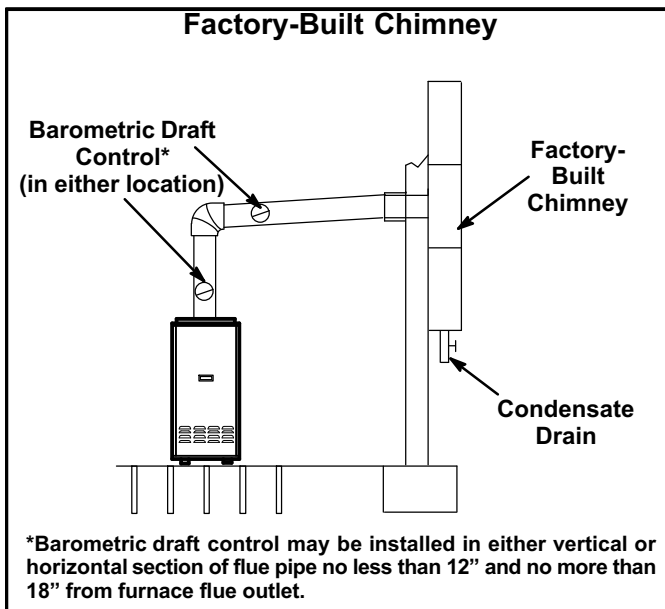

Figure 11
- 15 - All vent pipe run through unconditioned areas or outside shall be constructed of factory-built chimney sections. See figure 11.